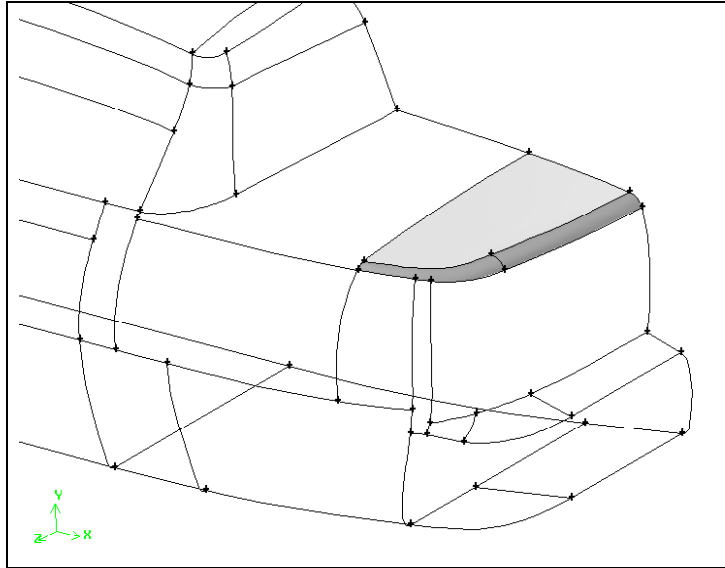
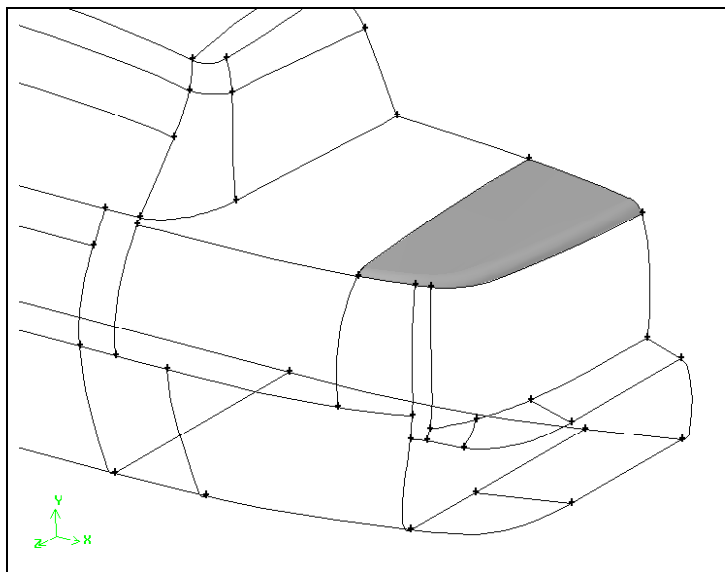

Figure 5-13: Three faces near rear end of trunk
Figure 5-14: Three faces merged near rear end of trunk
3. Merge three faces near the rear end of the trunk of the car (see Figure 5-13) using the method described above. The merged faces are shown in Figure 5-14.